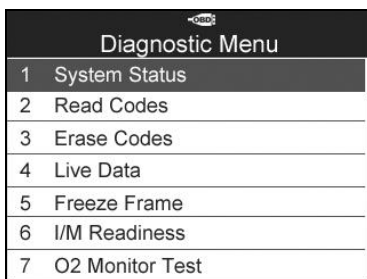

Figure 6.3
- 1) From **Diagnostic Menu**, use the **UP/DOWN** scroll button to select **Read Codes** and press the **Y** button. (Figure 6.3 )
- 1) Use the **UP/DOWN** scroll buttons to select **Erase Codes** from **Diagnostics Menu** and press the **Y** button. (Figure 6.3)
- 1) To view live data, use the **UP/DOWN** scroll button to select **Live Data** from **Diagnostic Menu** and press the **Y** button. (Figure 6.3)
- 1) To view freeze frame data, use the **UP/DOWN** scroll button to select **Freeze Frame** from **Diagnostic Menu** and press the **Y** button. (Figure 6.3 )
- 1) Use the **UP/DOWN** scroll button to select **I/M Readiness** from **Diagnostic Menu** and press the **Y** button. (Figure 6.3)
- 1) Use the **UP/DOWN** scroll button to select **O2 Monitor Test** from **Diagnostic Menu** and press the **Y** button. (Figure 6.3)